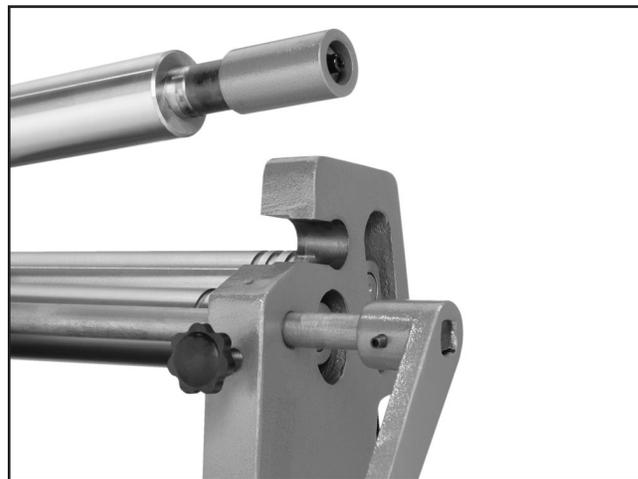

Figure 31. Releasing upper roller.
3. With the help of an assistant, slide and lift the upper roller out from the base. Remove the workpiece from the upper roller, then place the upper roller back onto the base (**Figure 31**).